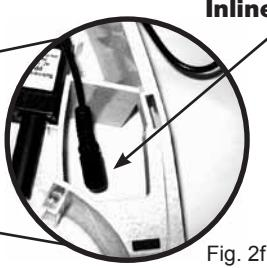

Fig. 2f
- 6) Next, remove the pump by disconnecting the inline plug (Fig. 2f), then lift it out of the fountain. Clean away any hair or food that may have accumulated around the flow control knob and the intake plate of the pump.